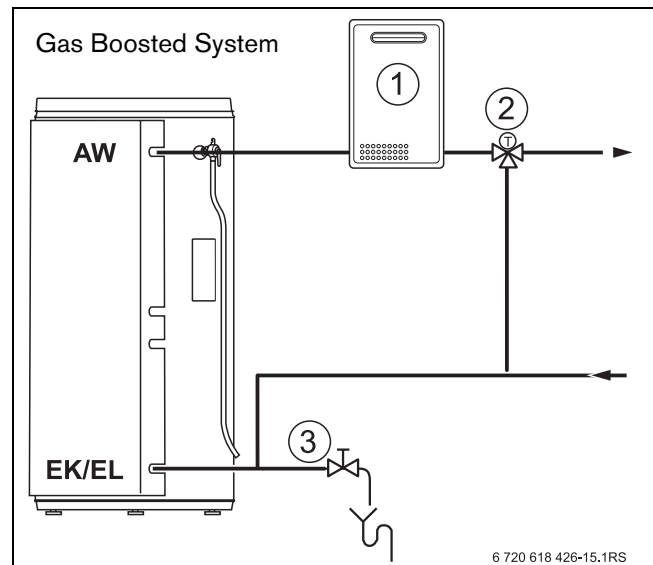
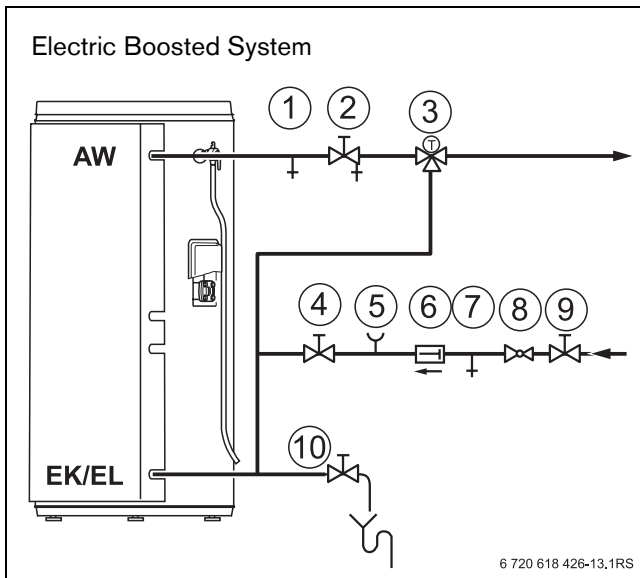

Fig. 14 Connection diagram on the DHW side when using an external water heater
Fig. 15 Connection diagram on the DHW side with electric heating element
- ▶ To limit the draw-off temperature to a maximum of 50 °C, fit a tempering valve (accessory) in the DHW line (→ Fig. 14, [2]) and (→ Fig. 15, [3]).